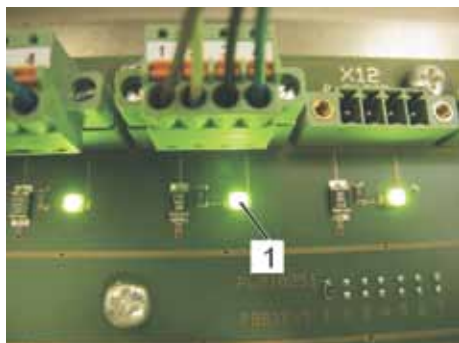

Fig. 111: Terminal box
2. Check if the LED of all connected sensors are on (Fig. 111/1).